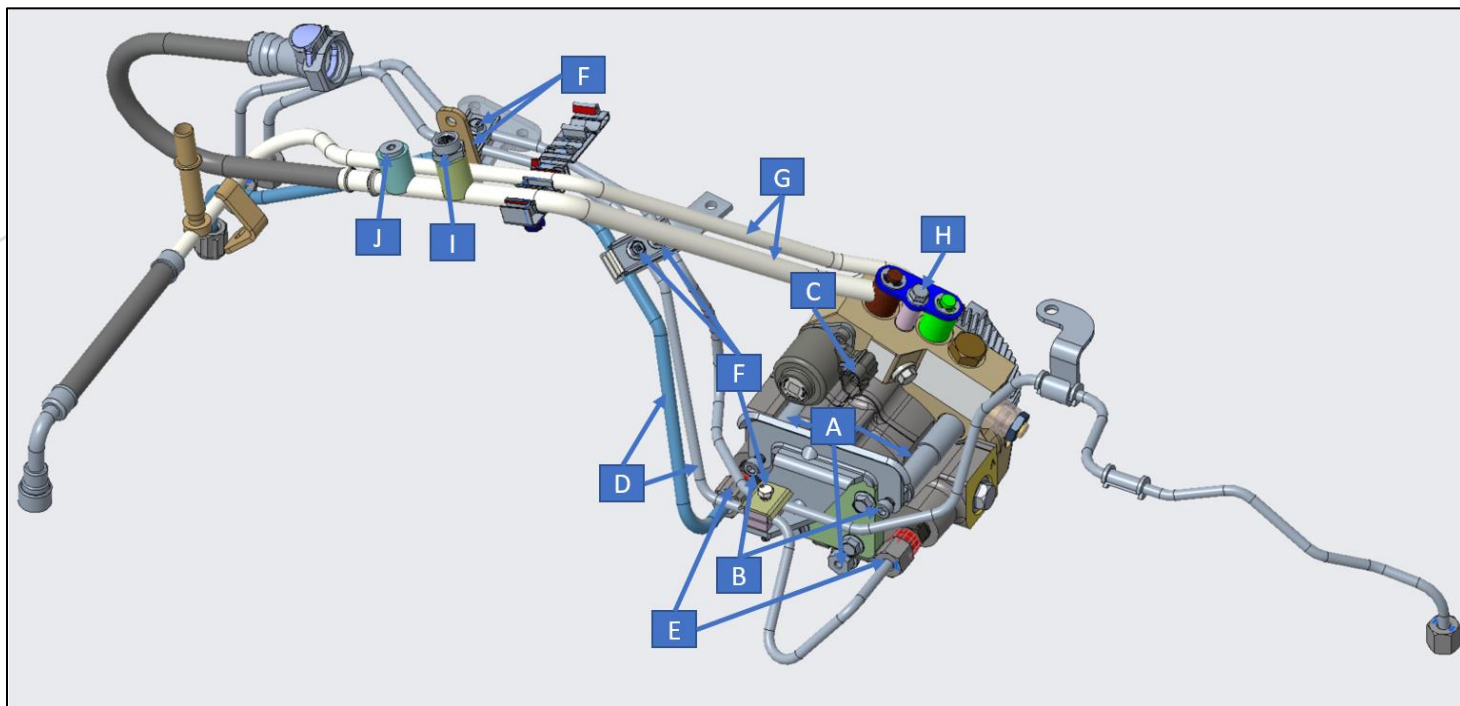

Figure 28: DCR Pump Assembly
10. Use the three OEM pump mounting stud / nuts to secure the pump in place (Labeled as A in Figure 28).
- b. Install the provided High-Pressure Fuel Line Tail Support Bracket to the OEM pump mounting nuts reusing the factory bolts (Labeled as B in Figure 28).
22. Install the supplied low-pressure line assembly into the DCR ports (Labeled as G in Figure 28).
- b. Install blue threadlocker on the line assembly to pump inlet OEM hold-down bolt (H in Figure 28)
25. Connect the electrical connectors on the sensors of the new fuel supply lines (Labeled as I and J in Figure 28).